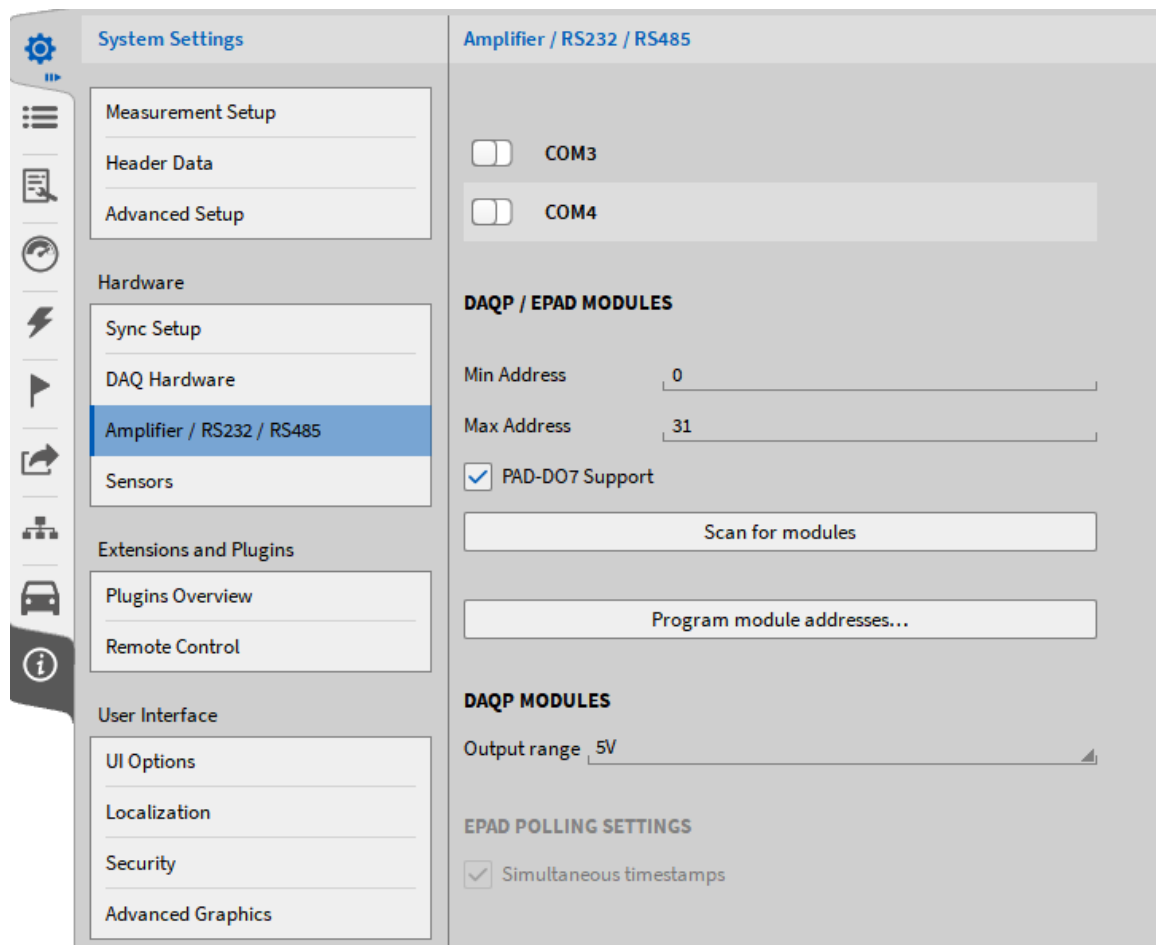

Fig. 4.40: Programming module addresses
- Enable the Serial Port(s) on which the modules are connected (see ① in Fig. 4.40).
- Click on *Program module addresses* (see ② in Fig. 4.40).